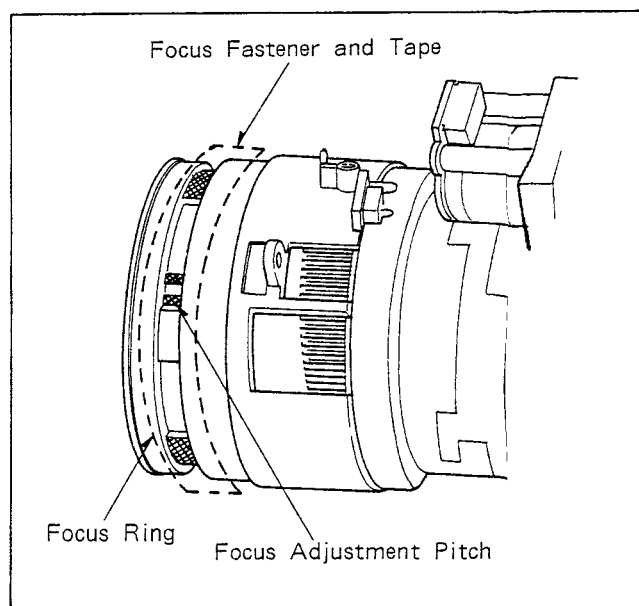

Fig. T6
- (17) Install the Focus Fastener and Tape as shown in Fig. T6.
- (18) Install the C.B.As (Process, Auto Focus, Sensor, Encoder) and Zoom Motor in reverse assembly order.
- (19) After installation of the Focus Ring, Adjust the position of Back Focus Pitch as follows.